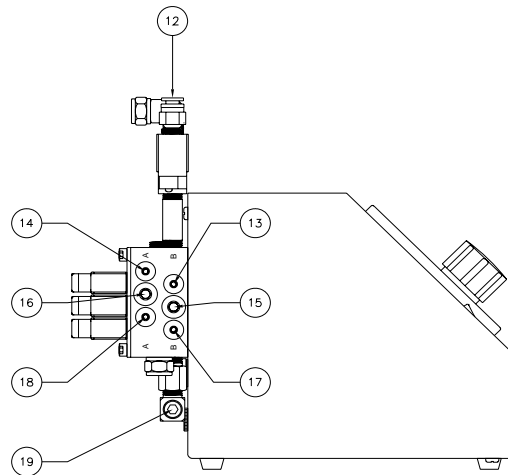

Figure 2, Pneumatic Connections.
2.2 Pneumatic Connections, refers to Figure 2
3. Connect and pneumatic peripheral devices you wish to use with the Multi-Functional Controller to ports on the back of the Multi-Functional Controller (See Figure 2).
4. Connect the air supply line to the Supply In port on the Multi-Functional Controller (See Figure 2).